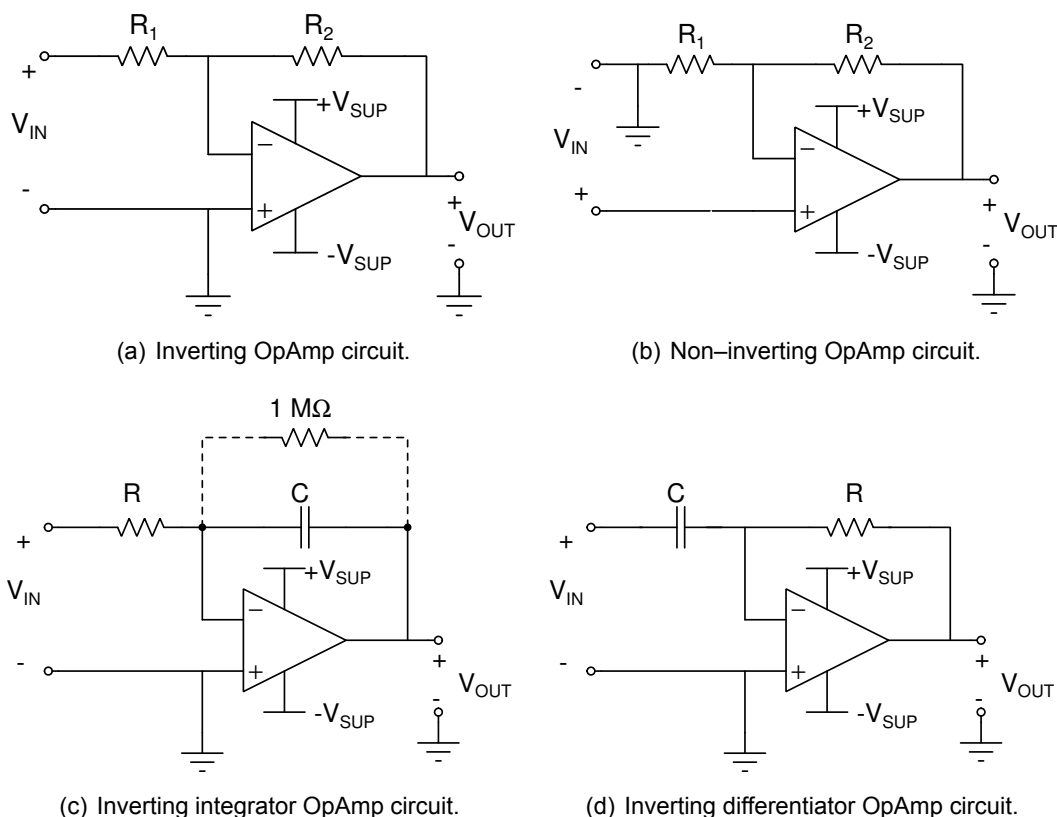
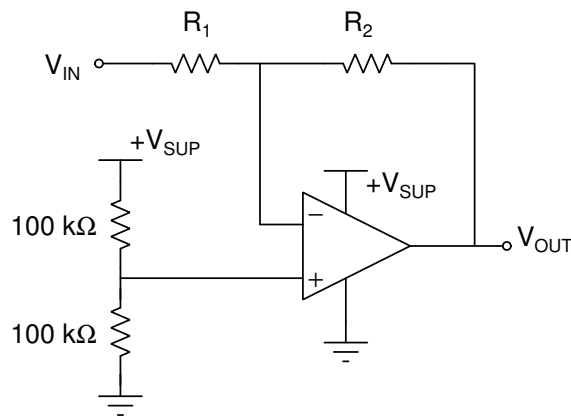

Figure 1: Four basic OpAmp circuits using negative feedback.
Figure 2: Inverting OpAmp circuit operated from a single power supply.
1. Review the ideal OpAmp circuits from ECE 210 and make sure you are able to calculate the transfer function, $V_{OUT}(t)$ as a function of $V_{IN}(t)$, for each of the four OpAmp configurations shown in Figure 1. These OpAmps use dual-rail voltages ($\pm V_{SUP}$), and negative feedback to achieve amplification within the active region of operation.
2. Design an inverting OpAmp circuit, shown in Figure 1(a), to produce a gain of -5 V/V.
4. Design a non-inverting OpAmp circuit, shown in **Figure 1(b)**, to produce a gain of +5 V/V.
6. OpAmp circuits can be modified to operate from a single rail voltage. This is illustrated in **Figure 2** for the inverting amplifier configuration. In this circuit, $-V_{SUP} = 0$ V, and the non-inverting input (v_n) is biased at $+V_{SUP}/2$. This circuit will be utilized in Lab 5. Draw the schematic of the non-inverting OpAmp configuration shown in **Figure 1(b)** when operated from a single rail voltage.
1. Build an inverting OpAmp circuit in **Figure 1(a)**, using dual rail voltages, and a gain of -5 V/V.
- (a) Turn on the Dual Voltage Supply (PS), and turn the voltages down to zero. Set the Tracking Ratio knob fully clockwise till it clicks. Attach the ends of extra long wires between the common, adjustable $+20$, and adjustable -20 volt terminals on the PS, and the ground, $+V_{SUP}$, and $-V_{SUP}$ terminals on your circuit, respectively.
- (c) Connect the function generator (FG) to the input of the OpAmp circuit. Adjust the FG to output a sine wave of 0.5 Vp at a frequency of 2 kHz. Connect one channel of the oscilloscope to the FG output and the other channel to the output of the OpAmp. What are the gain and phase shift of the output with respect to the input? How do these results compare with simulated predictions? Record the results in your notebook.
3. Build the inverting integrator circuit in **Figure 1(c)** with $R = 1$ k Ω and $C = 0.1$ μ F. The 1 M Ω resistor across the capacitor provides a DC path from the output to ground. What is the relationship between V_{OUT} and V_{IN} for this circuit?
4. Build the inverting differentiator shown in **Figure 1(d)** with $R = 1\text{ k}\Omega$ and $C = 0.1\text{ }\mu\text{F}$. What is the relationship between V_{OUT} and V_{IN} for this circuit?